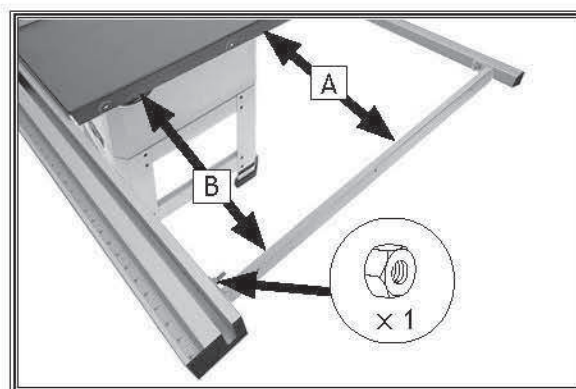

Figure 33. Fence rail brace installed.
30. Measure distance (A) from table edge to rear end of fence rail brace, then adjust front end of fence rail brace so it is the same distance (B) from table edge (see Figure 33).
31. Secure hex bolt on front of rail brace with (1) M8-1.25 hex nut.